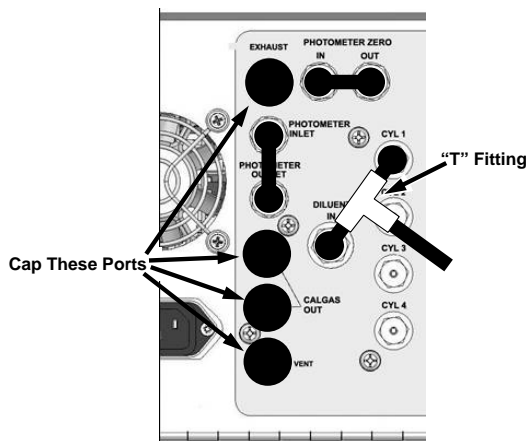

Figure 8-2: Gas Port Setup for Auto-Leak Check Procedure
4. Use the 1/4" caps to cover the following gas outlet ports on the back of the T700 (see Figure 8-2).
6. Connect a gas line from the zero air gas source to the Diluent In and to the CYL 1 port using a "T" type pneumatic fitting (see Figure 8-2).